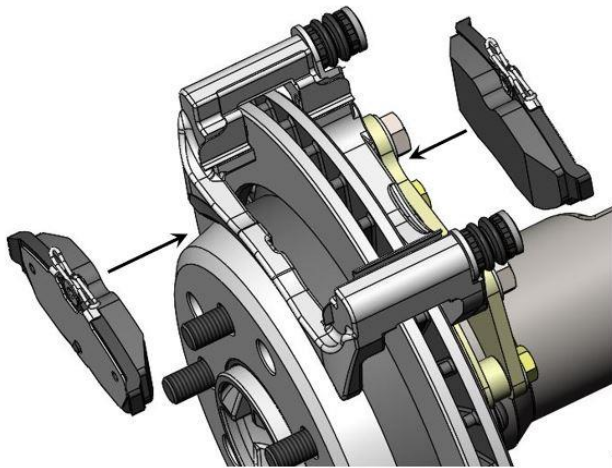
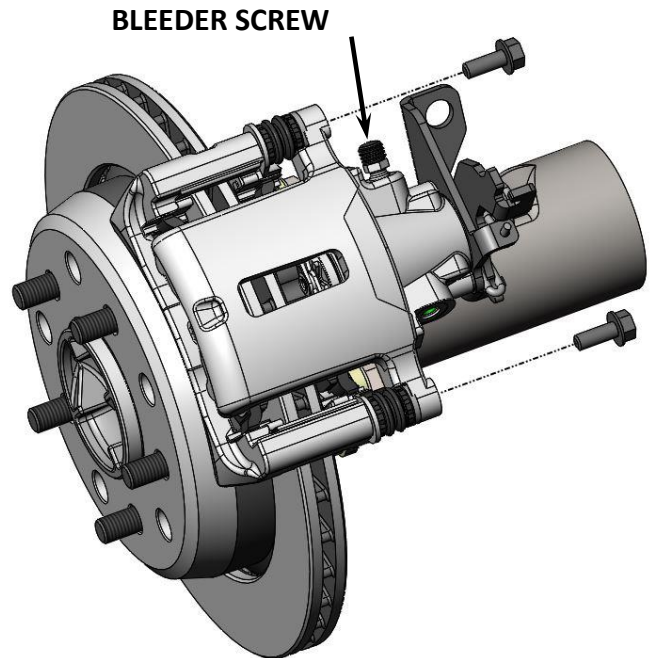

Figure 9a – Brake Pad Installation
Figure 9b - Caliper Installation and Bleeder Screw Orientation
12. With the Abutment Clips installed, Install the pads into the Caliper Anchor Bracket. Refer to Figure 9a below for reference. Once the pads are installed slide the caliper body over the brake pads and Caliper Anchor Bracket. With the caliper in place, re-install the caliper mounting bolts between the caliper and the bracket. Torque the bolts to 30 lb/ft. **IMPORTANT:** Make sure that the bleeder screw is pointing upward. See Figure 9b below for reference on installing the caliper.